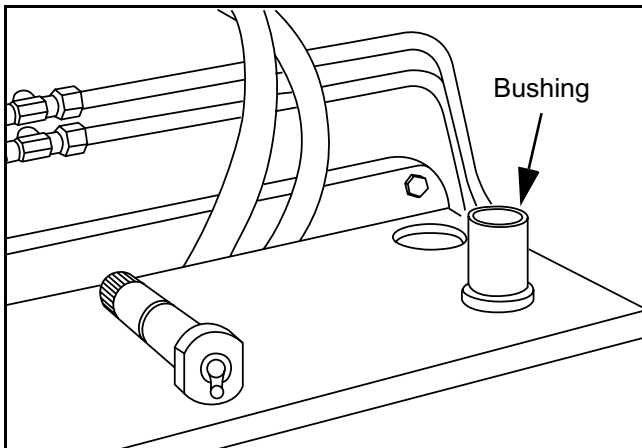

Figure 6 - 18 Remove bushing from tool
- 5) Remove the bushing from the bushing removal tool. (Figure 6 - 18)